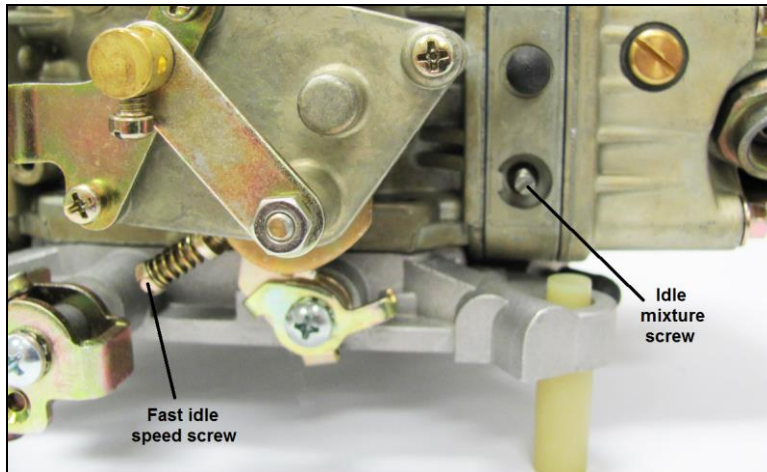

Figure 6
3. **Choke:** If the fast idle speed provided during the choke operation needs adjustment, turn the engine off. Close the choke exposing the fast idle adjusting screw. Use a small open end wrench for ease of adjustment. See Figure 6.